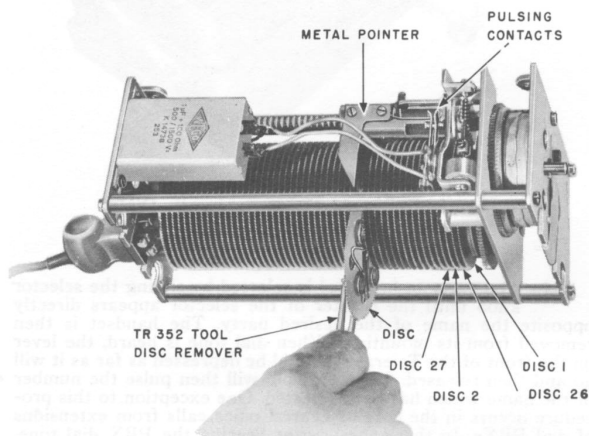

Fig. 3—Telerapid Interior
3.03 To remove a disc from the main shaft, slide selector knob to the desired number on directory card, lay the Telerapid on its side, and remove base. The metal pointer inside the dialer housing points to the disc to be removed. Insert the TR352 tool between the discs until the up-turned positions at the end of the two fingers engage the openings in the disc to be removed. A slight outward pull will dislodge the disc from the main shaft. (See Fig. 3.) The TR352 tool may be used on either Telerapid dialer. If this tool is not available, the disc can be removed by carefully using long-nosed pliers.